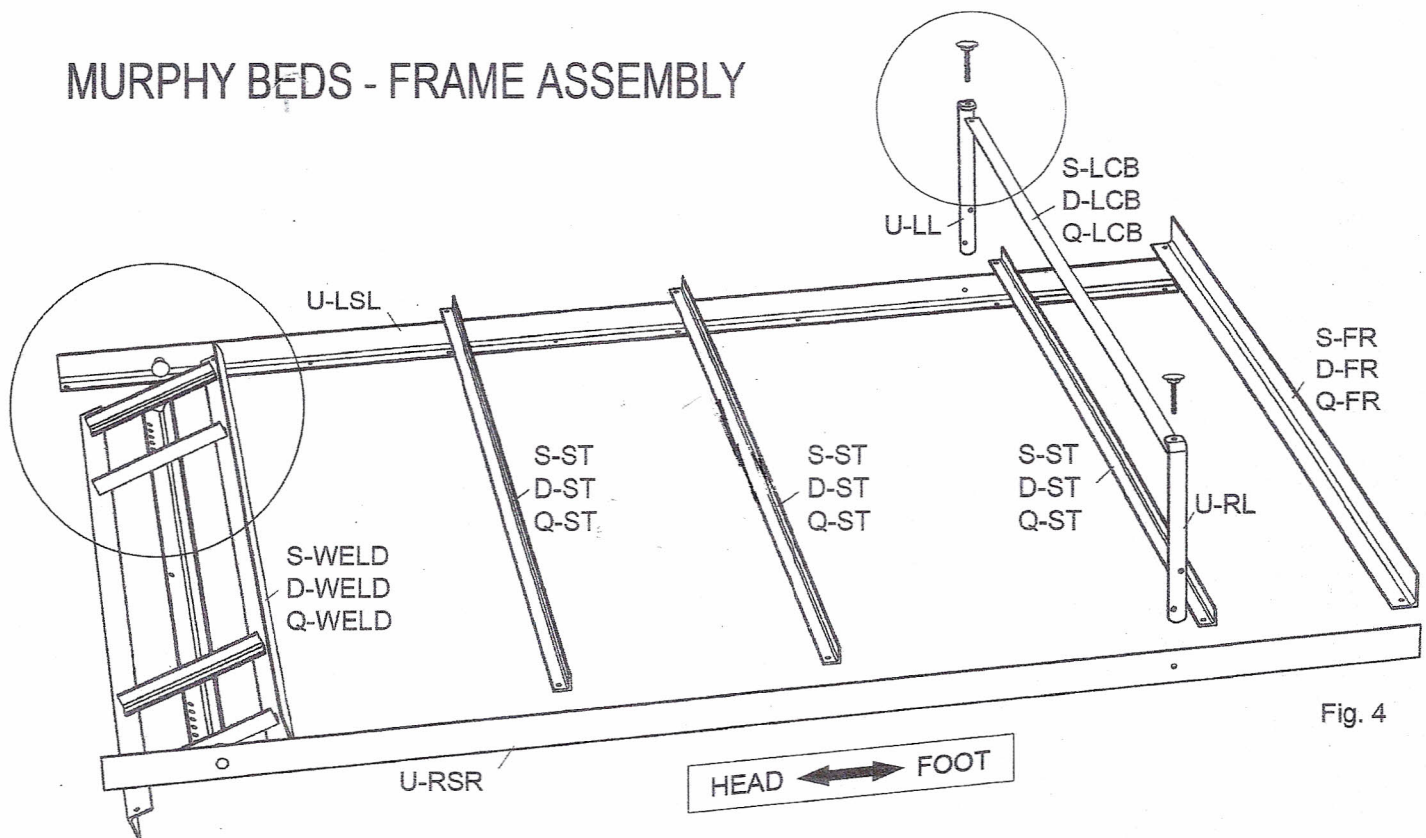

Fig. 4
9. Lay parts on floor upside down as shown above, Figure 4.